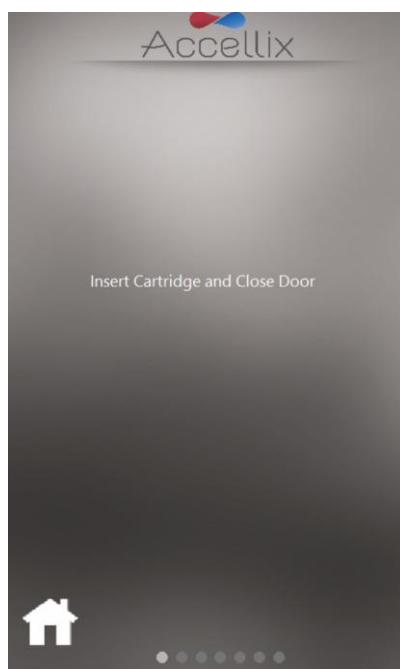

Figure 35: Insert Cartridge screen
Note: From this point forward, the highlighted gray dot at the bottom of the screen shows the current stage of the assay run. (See Figure 35).
4. When prompted by the instrument (Figure 35), open the door by pressing down on the front right-hand indent corner of the door and releasing. Next, insert the cartridge into the instrument by pushing it down using the top handle. Once the cartridge is inserted, push the handle on the right-hand side a bit more until a click is heard and felt, ensuring that the cartridge has been inserted fully into the instrument Cartridge Handling Unit (CHU).